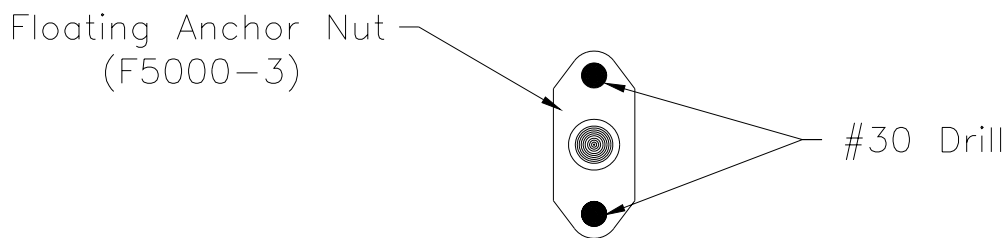

Figure 20.5.10
10) Drill the two #30 attachment holes through each floating anchor nut (F5000-3). Figure 20.5.10.